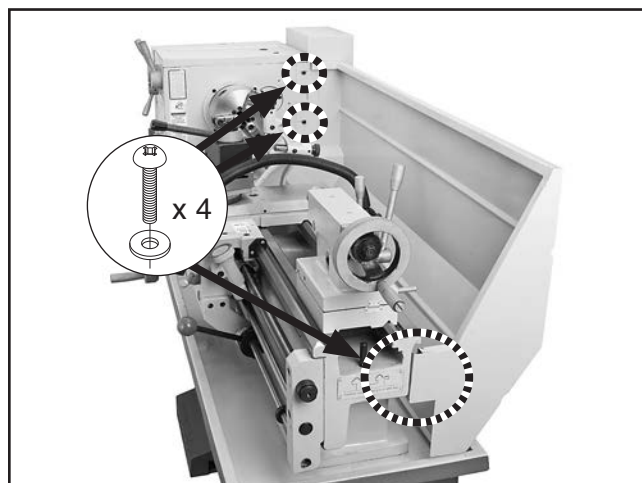

Figure 16. Locations to secure back splash.
18. Attach back splash to rear of lathe with (4) M6-1 x 10 Phillips head screws and (4) 6mm flat washers, as shown in **Figure 16**.